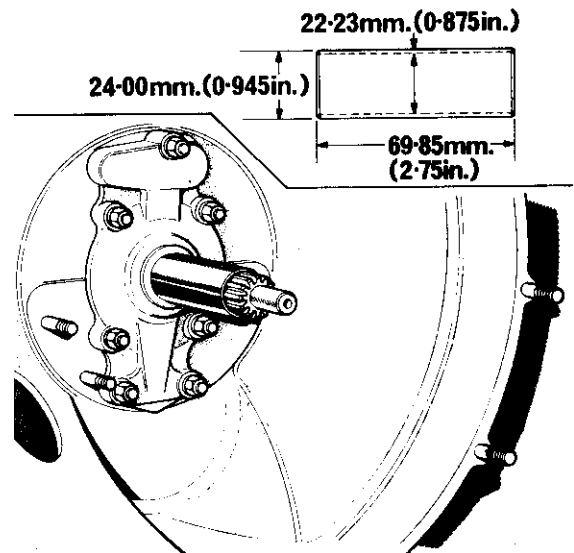

Figure 4 Refitting front cover (plus sleeve dimensions)
- Fit a new gasket and secure front cover to gearbox case with seven 3/4" UNF nuts and washers. **Note** To prevent the primary gear damaging the oil seal when fitting front cover use a sleeve as shown (Figure 4).